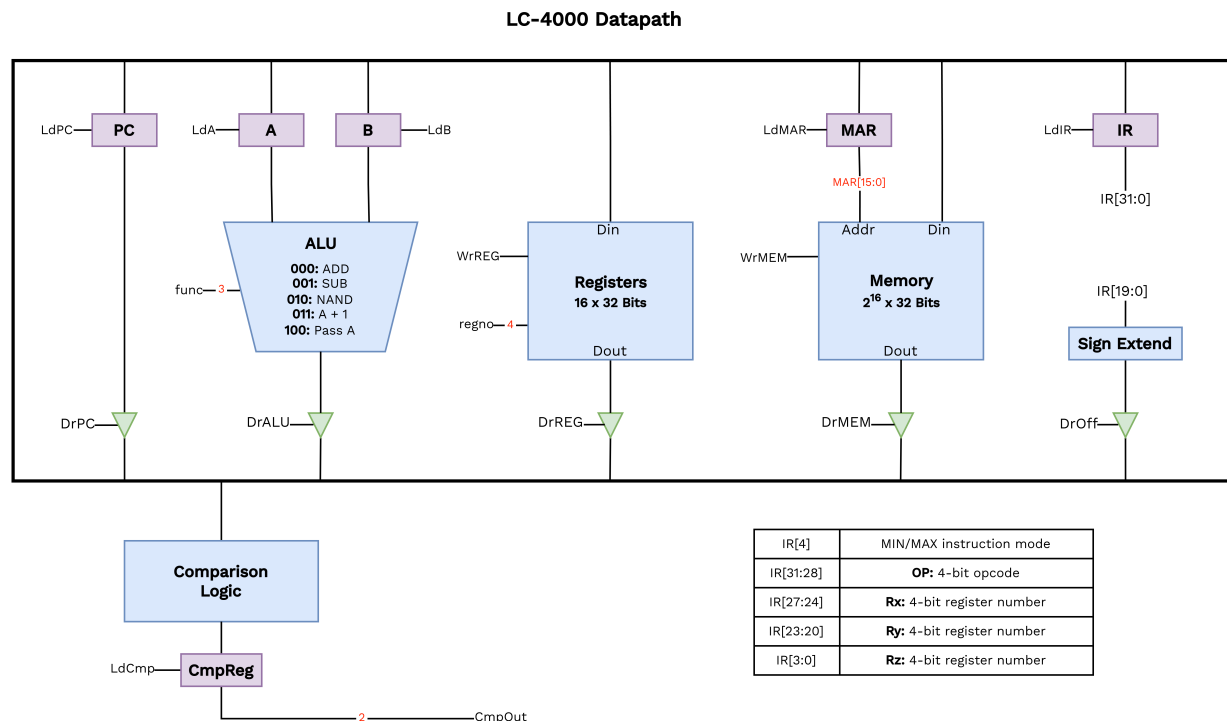

Figure 1: Datapath for the LC-4000 Processor
2. Using CircuitSim, implement the LC-4000 datapath. To do this, you will need to use the details of the LC-4000 datapath defined in Appendix A: LC-4000 Instruction Set Architecture. You should model your datapath on Figure 1.
The “comparison logic” box in Figure 1 is responsible for performing the comparison logic associated with the BEQ, BLT, MIN and MAX instructions. The comparison logic should read the current value on the bus. When executing BEQ, you should compute $A - B$ using the ALU. While this result of the ALU is being driven on the bus, you should wire the value of $A - B$ into a comparator, and use the resulting outputs as necessary to handle all cases of the comparison logic across all instructions.
2. Implement the Microcontrol Unit using CircuitSim. The appendix contains all of the necessary information. Take note that the input and output signals on the schematics directly match the signals marked in the LC-4000 datapath schematic (see Figure 1).
3. Connect the completed control unit to the datapath you implemented in Phase 1. Using Figures 1 and 2, connect the control signals to their appropriate spots.